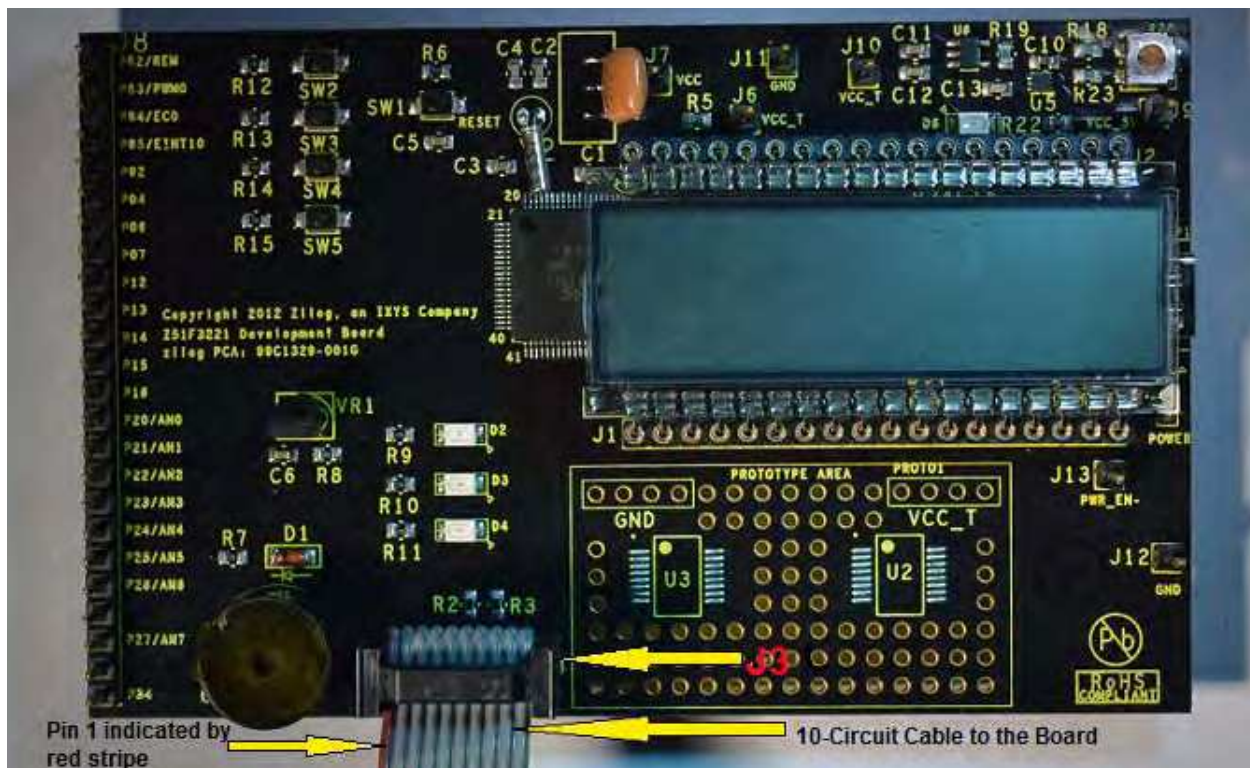

Figure 13. Connecting the 10-Circuit Cable to the Board
3. Connect the other end of the 10-circuit cable connector to the Z51F3221 Board's J3 connector. Pin 1 of the cable connector is indicated by a red stripe, as shown in Figure 13.